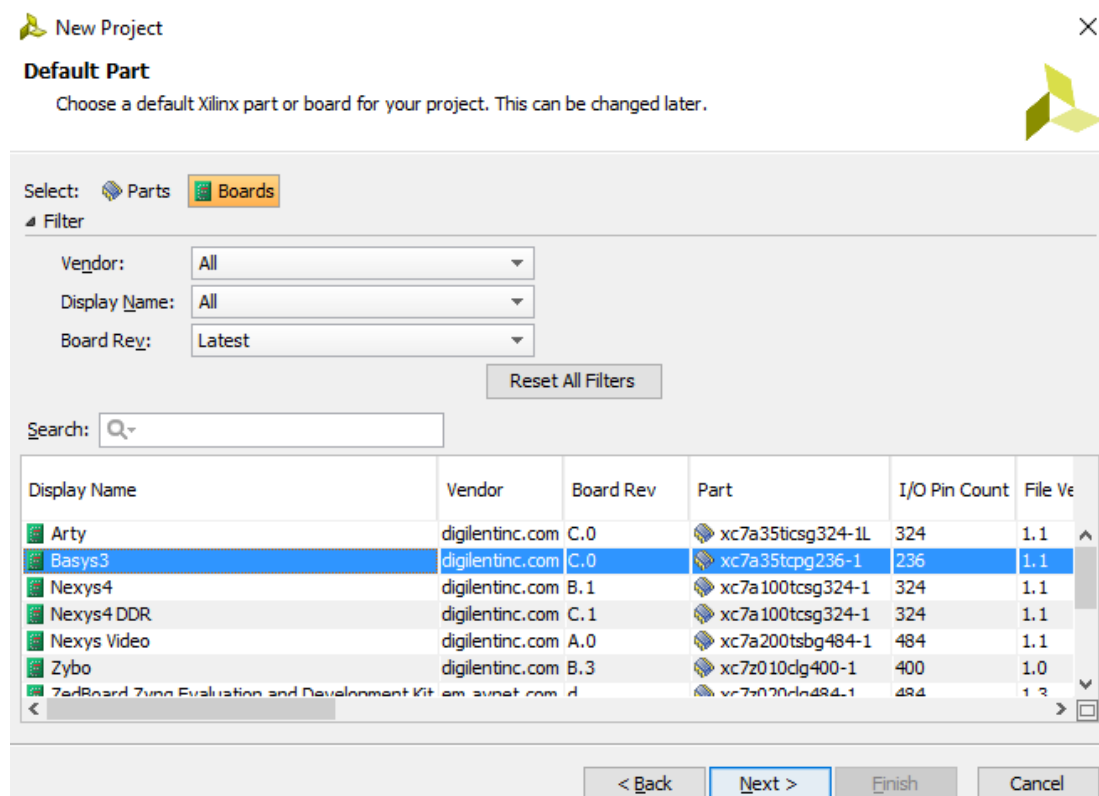

Figure 14. FPGA device parameters.
16. In the window shown in Figure 14 you have to specify the parameters of the FPGA device available on the BASYS 3 board that we use for the lab. First select the boards tab and then select Basys3 as shown in Figure 14